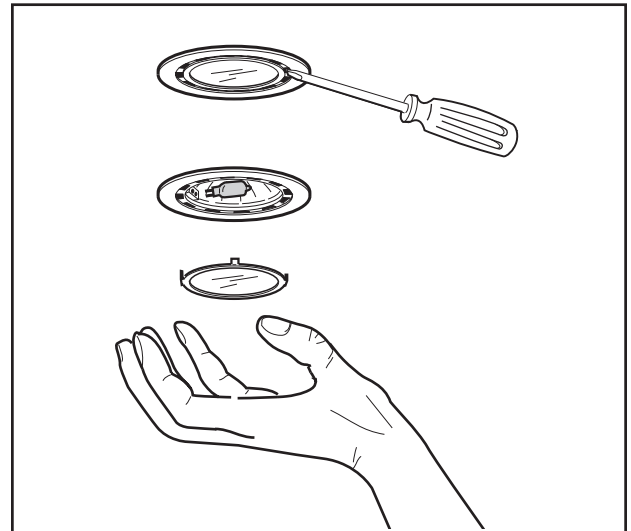

Figure 3
- Using a flat edge from a screwdriver or equivalent tool, pry loose the lens cover as shown in Figure 3.